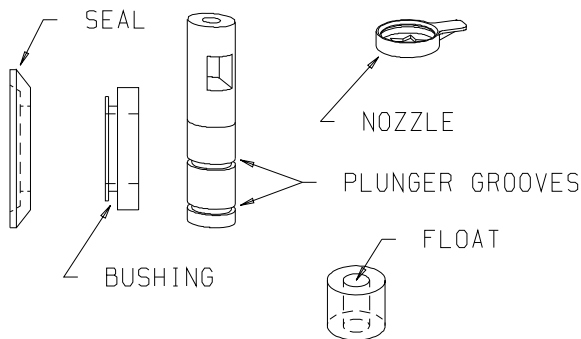

Figure 7-7 Clean shaft seal, bushing, plunger, nozzle and float
c. the shaft seal, washer, plunger O-ring grooves, nozzle and float (figure 7-7)